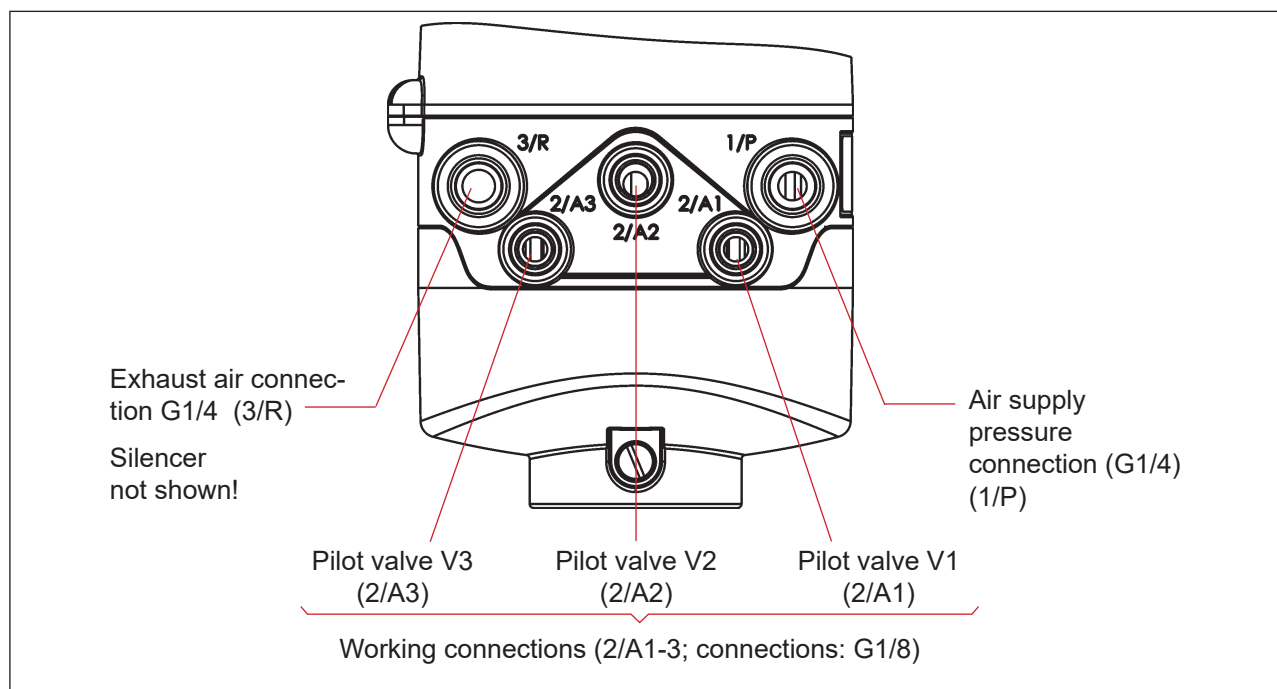

Fig. 17: Pneumatic connections
- A silencer has already been mounted on the exhaust air connection (**3/R** - see “Fig. 17”) in the supplied state. As needed, the silencer can be replaced by an exhaust air hose (e.g. after screwing in an appro-
- Connect the required working connections **2/A1 to 2/A3** with the corresponding connections on the process valve (according to the number of pilot valves in the device) - compare "Fig. 17".